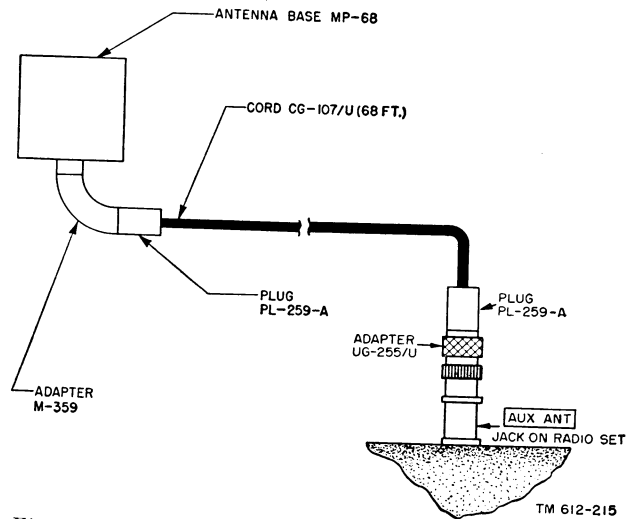

Figure 34. Antenna Equipment RC-292, connection to radio set.
c. Connect the other end of the adapter to the AUX ANT jack of the radio set (fig. 34).